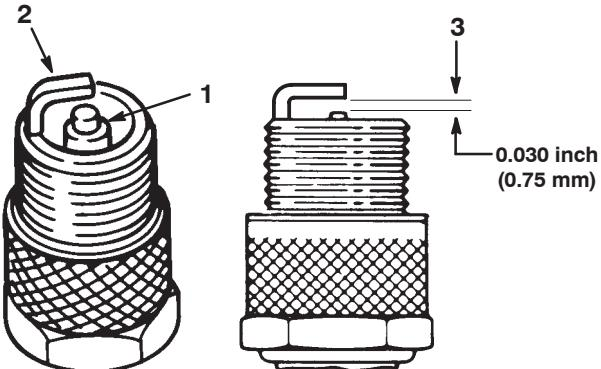

Figure 33
2. Check the gap between the center and side electrodes (Fig. 33). Bend the side electrode (Fig. 33) if the gap is not correct.